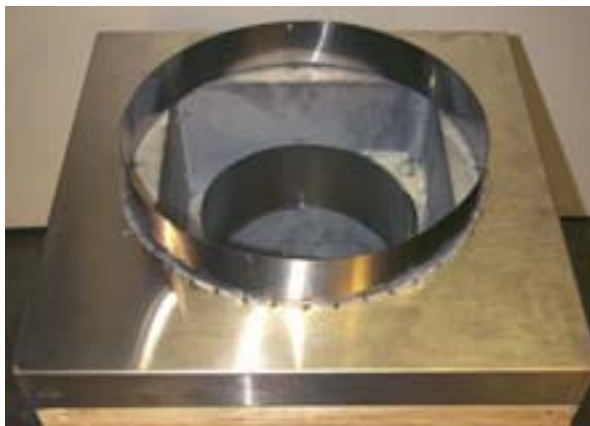
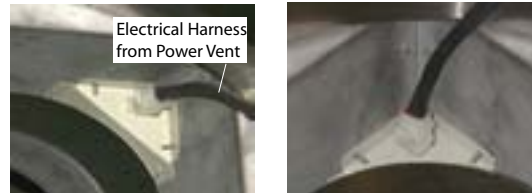

Figure 11d. Installed stainless steel cover.
Figure 11e. Installed power harness.
Step 5: Install the Power Vent Roof top stainless steel cover over the installed Rough-in Kit, see **Figure 11d**. The Electrical connector is located in the corner, see **Figure 11e**.
Step 6: Install the Power Vent module power harness. Hold the Power Vent in close proximity to the assembled chase. With stainless steel cover attached, plug in the power harness. Note the direction and orientation of the plug socket, see **Figure 11e**.